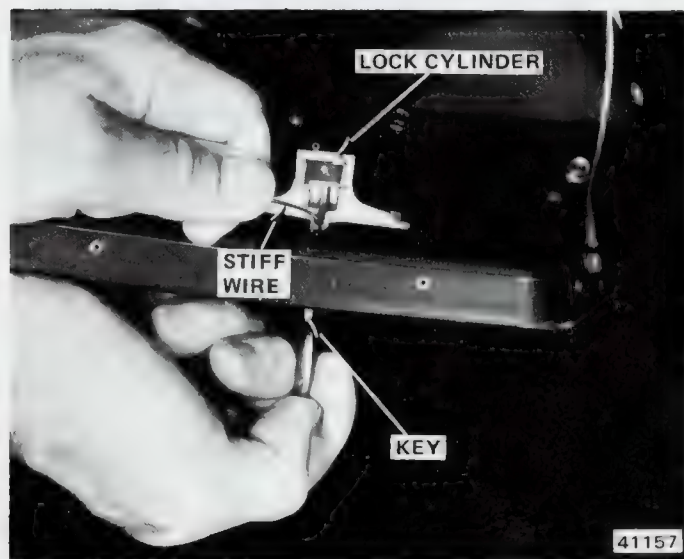

Fig. 3C-38 Lock Cylinder Removal
- (1) Open glove box door, insert key in lock and turn lock counterclockwise to lock position.
- (2) Remove key.
- (3) Apply pressure to retainer tumbler with a stiff wire and insert key (fig. 3C-38).
- (4) Remove lock cylinder and key as a unit.